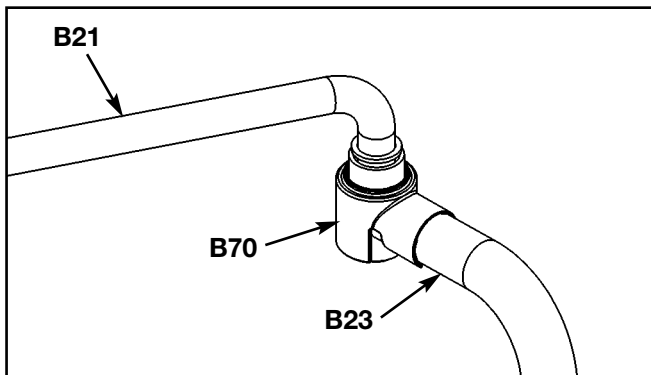

Figure 11C
- D.** Slide guard (#B70) downward and snap into place. See Figure 11C.